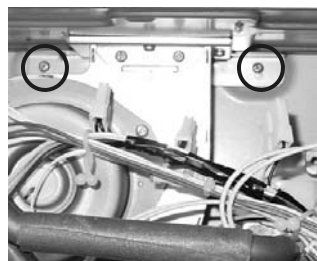

Figure 6 Bottom screws
22. Install the 4 screws at the top and bottom of the heat exchanger to the back of the casing. (Figure 6)